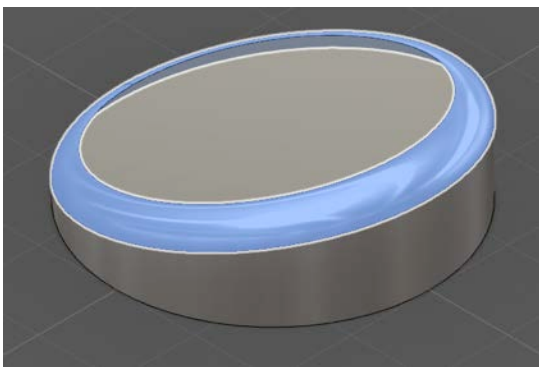

Fig. L02
4. Go to Modify>Fillet, select top edge of cylinder and add a fillet of 15mm (Fig.L02).